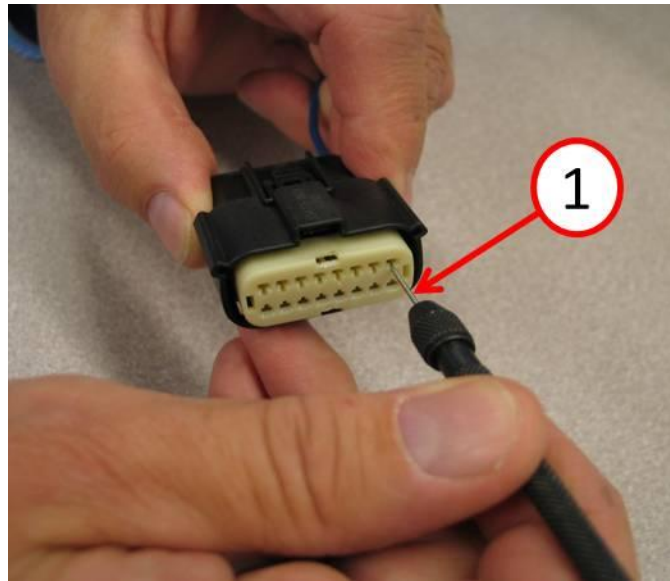

Fig. 5 TERMINAL RELEASE TOOL INSERTED
6. Insert either J-38125-217 (Kent Moore number) OR MX 150-MX150L / 63813-1500 (Molex) OR a fabricated tool, (consisting of a chamfered 1mm drill bit installed with the cutting end of the drill in the handle of Miller Tool #8351), into TPA (module side of connector) into the desired "service port" until resistance is felt. (Fig. 5)